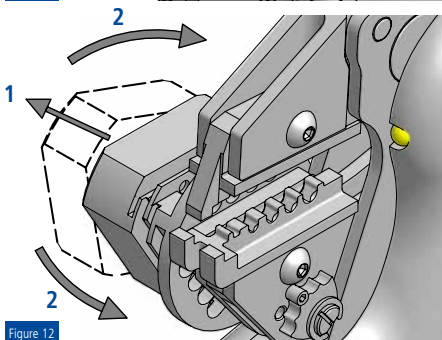

Figure 12
8.3.3 Die sets for turned contacts (Figure 12, 13)
2. If required, pull out the locator and rotate it in order to position it correctly. (Figure 12)